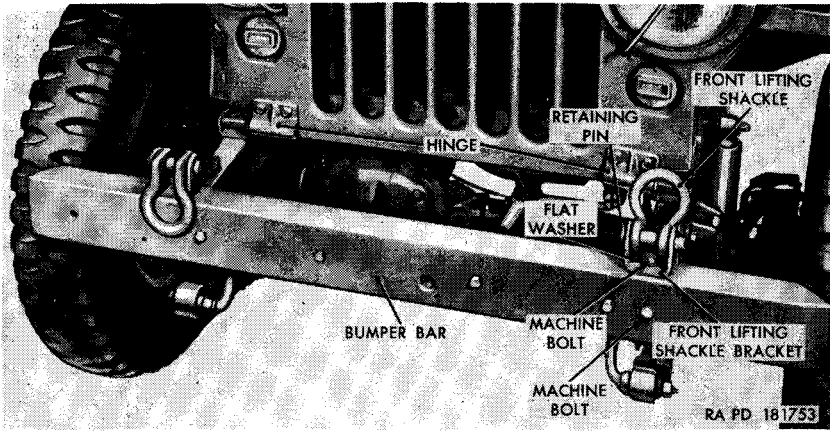

Figure 131. Bumper bar and front lifting shackles.
a. Front Lifting Shackles with Brackets (fig. 131).